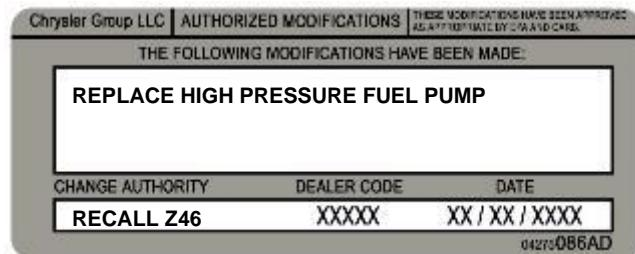

Figure 68 – Authorized Modifications Label
1. Type or print (with a ballpoint pen) the necessary information shown in (Figure 68) onto the authorized modifications Label.